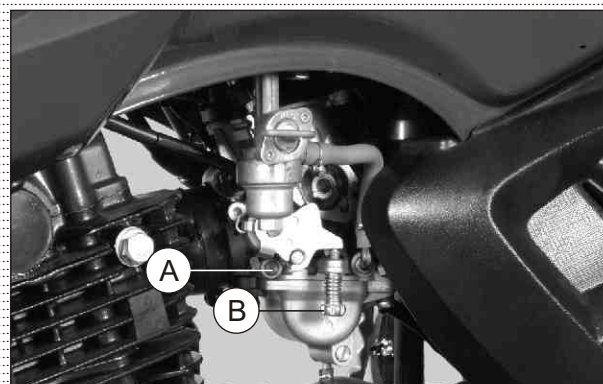

Fig. 4.38
- After remounting carburettor assembly on the vehicle, adjust the mixture volume control screw (MCS) (A) as per the specification. Turning out makes rich mixture and turning in makes lean mixture. (Fig. 4.38)
- Adjust idle speed as per specification. Turning in the adjuster (B) increases the rpm. Turning out reduces the idling rpm. (Fig. 4.38)